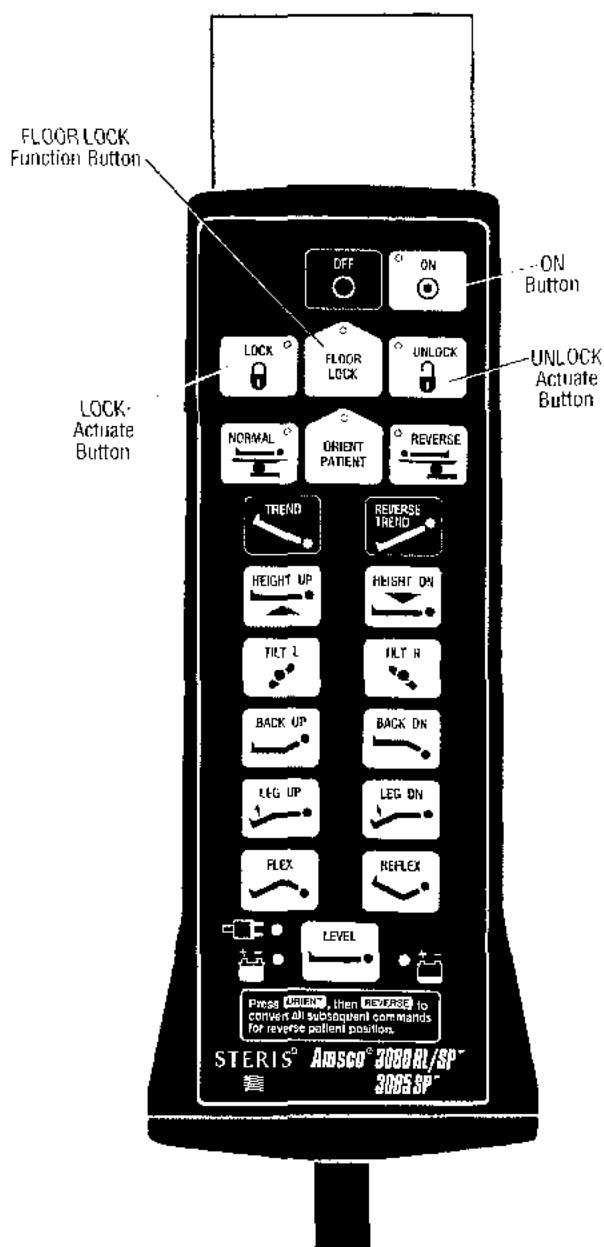

Figure 3-3. Hand Control
Refer to Figure 3-3 for identification of hand control functions. See Section 7, Troubleshooting, to identify any problems with the hand control.
3. Press the FLOOR LOCK Function button in the center row of control buttons, and **within 5 seconds** press the LOCK button (to the left of the FLOOR LOCK button, see Figure 3-3). Table is locked in position as floor locks are lowered and casters are raised. The table will remain locked (immobile) until the UNLOCK* function is actuated.
* To unlock table, press the FLOOR LOCK button in the center row of control buttons, and within 5 seconds press the UNLOCK button adjacent to it on the right (see Figure 3-3). Floor locks will retract and table will rest on casters.